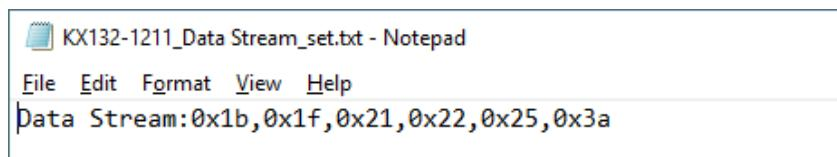

Figure 61. KX132-1211 Data Stream Register Set
**NOTE:** the set name can contain a space. The set name should be then followed by a colon ":" sign and HEX addresses of the registers each preceding by "0x" in front of it. The registers should be separated by commas ",", and spaces are not allowed. Any register preceded by a space would not be shown in the register view. The registers can be listed in any order and will be sorted automatically in the register viewer from lowest to highest regardless of the order in the register set file. The example of the Data Stream register set is shown in Figure 61.